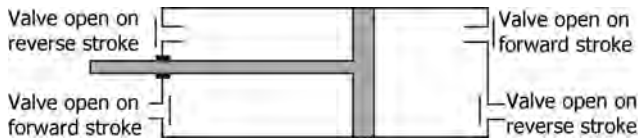

FIGURE 5.22 Valve action for a double-acting reciprocating piston pump.
- Figure 5.22 shows valve action for a double-acting reciprocating piston pump.